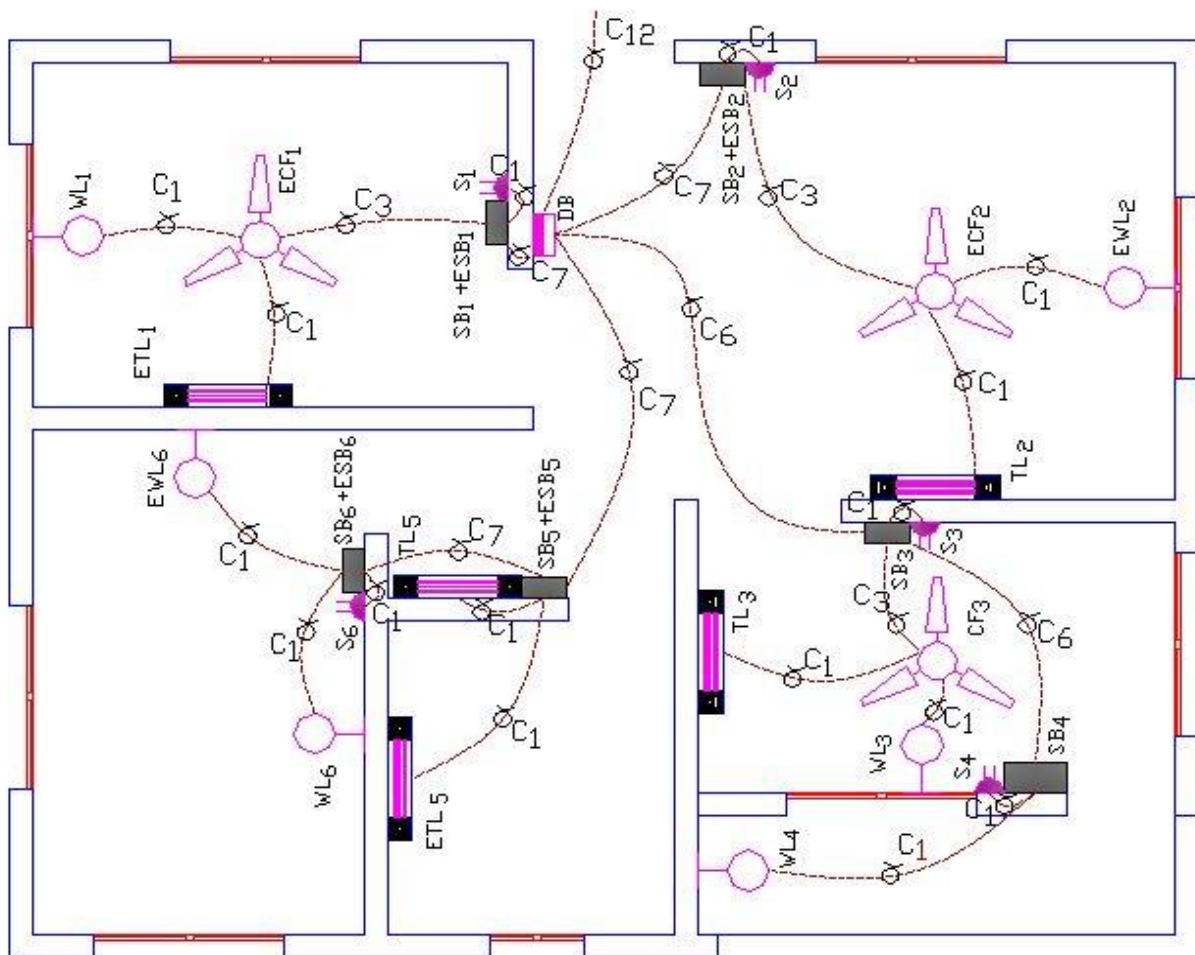

Fig. 8.1: Wiring the 25'00"x20'00" flat
- Write spl to get spline command. Draw the lines as shown in Figure.8.1.